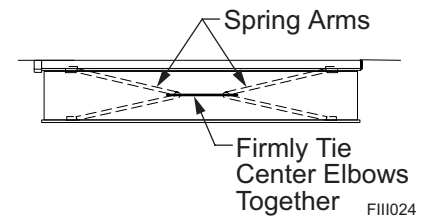

Figure 2. Securing the Arms.
5. While supporting the LH end of the roll bar, slowly allow the lead rail to extend 8"-10" then press the lead rail in 2"-3". Using a minimum 1/4" rope, firmly tie the center elbows of the spring arms together, do not use bungee cords. This will release the fabric tension on the roll bar and keep the lead rail from extending. (Refer to Figure 2 – Securing the Arms.)